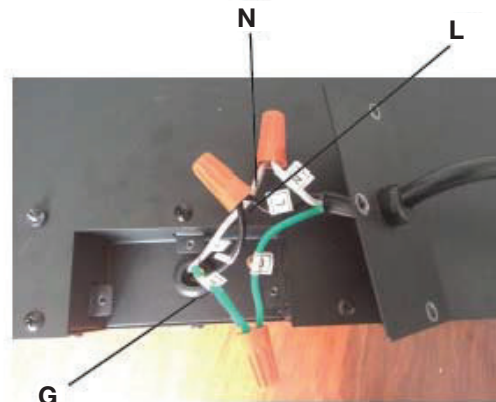

Fig. 4
- Using the wire connectors, connect the ground green wires (G) and the common white wires (N) together, then the hot black wires (L) (**Fig. 4**).